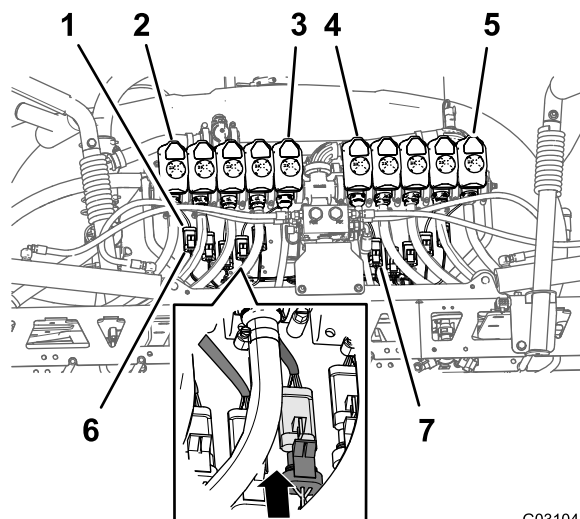

Figure 113
- Route the 3-socket connectors of the 218.4 cm (86 inches) wire harness branch with labels **Nozzle Valve 1** through **Nozzle Valve 5** rearward of the 10-valve mount and below nozzle valves 1 through 5 (Figure 113).
- Route the 3-socket connectors of the 218.4 cm (86 inches) wire harness branch with labels **Nozzle Valve 6** through **Nozzle Valve 10** rearward of the 10-valve mount and below nozzle-valves 6 through 10 (Figure 113).
- Connect the 3-pin socket connector of the rear wire harness labeled **Nozzle 1** to the 3-pin connector of the harness for nozzle-valve 1 (Figure 113).
- Repeat step 3 at the nozzle-valve positions 2 through 10 (Figure 113).